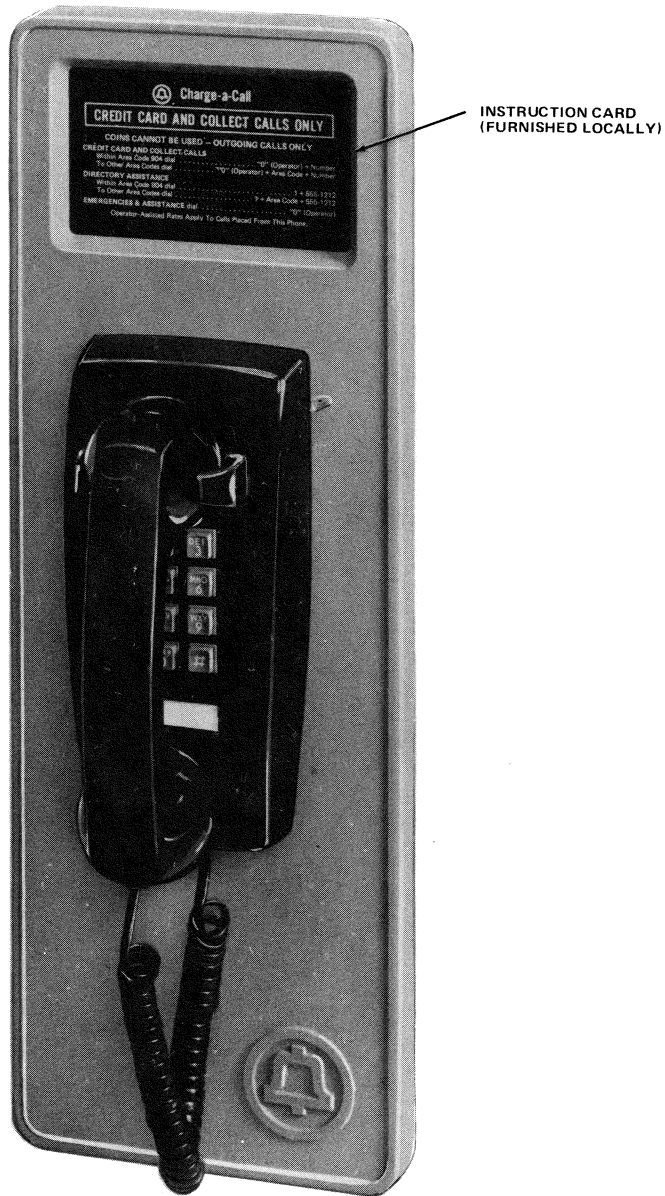

Fig. 3—KS-22284 Backboard With 2554-Type Telephone Set
- (c) The KS-22284 backboard (Fig. 3)
- (d) The 2554-type telephone sets (Fig. 3).
### C. KS-22284 Backboard (Fig. 3 and 9)
**2.24** The instruction card (Fig. 3 and 11) must be fabricated and procured locally.